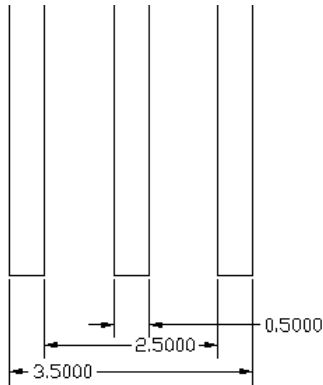

Figure 14-29: A set of continuous dimensions created with Quick Dimension.
3. At the **Specify dimension line position,** or **[Continuous/Staggered/Baseline/Ordinate/Radius/Diameter/datumPoint/Edit/Settings]<Continuous>:** prompt, right-click and choose the type of dimension you want to create. Figure 14-29 shows a set of continuous dimensions. The Datum Point option sets a new base point for baseline and ordinate dimensions. You can press Enter to use the type of dimension that you just used previously because that shows as the default. The command immediately creates the dimensions for you.